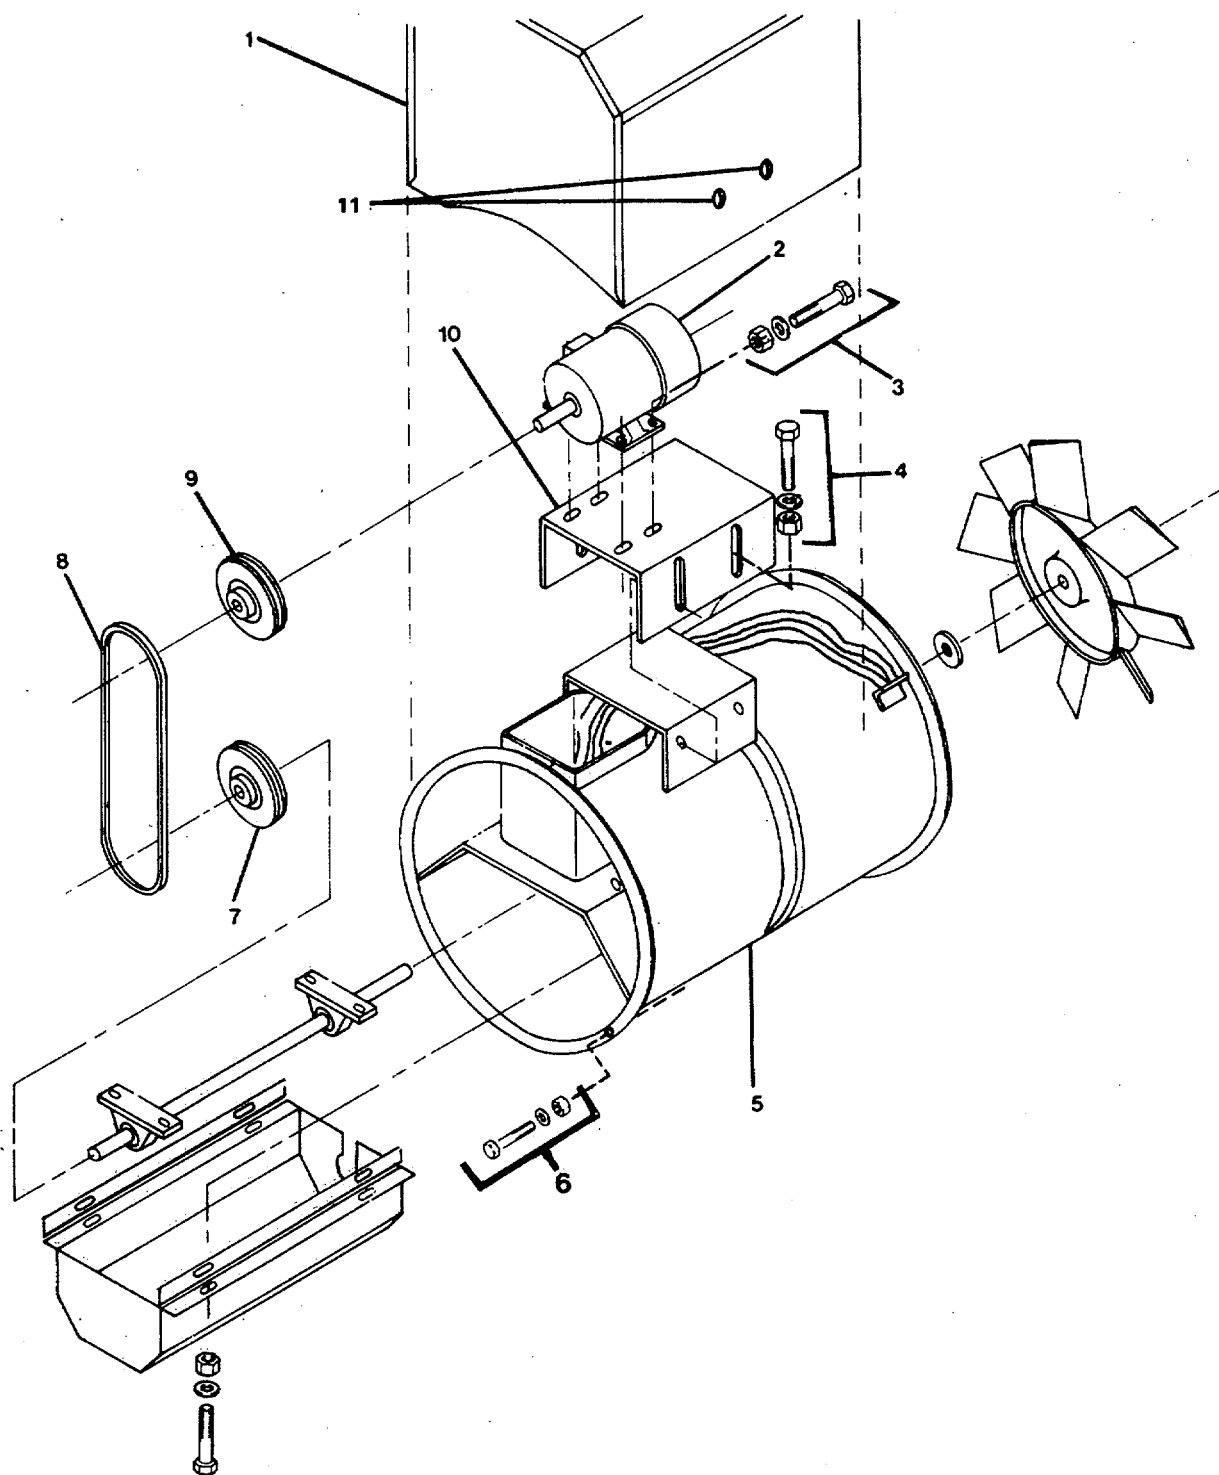

Figure 2-18. Ventilating Fan (Supply Fan #6).
2-28. Repair Fan, Ventilating (Supply Fan #6). (FIGURE 2-18)
- c. Refer to paragraph 2-28 and FIGURE 2-18, and remove the motor as follows:
- (1) Loosen tension on V-belt (8). Remove belt from around motor pulley (9, FIGURE 2-18).
- (2) Remove the motor pulley.
- (3) Remove motor mounting bolt, nut, and lockwasher assemblies (3).
- (4) Remove the motor (2) from the motor base (10).
- a. Refer to paragraph 2-28 and FIGURE 2-18, and install the motor as follows:
- (1) Position the motor (2) on mounting base (10, FIGURE 2-18).
- (2) Install motor mounting bolt, nut, and lockwasher assemblies (3). Do not secure until pulleys (7) and (9) are aligned.
- (3) Align pulleys (7) and (9), install V-belt (8) and adjust tension (paragraph 2-28).
- b. Install weather cover (1, FIGURE 2-18) with mounting bolts (11).
- (1) Turn electrical power ON.
- (2) Start and run fan to check for proper operation.
- (3) Remove "Out of Service" tag from circuit.